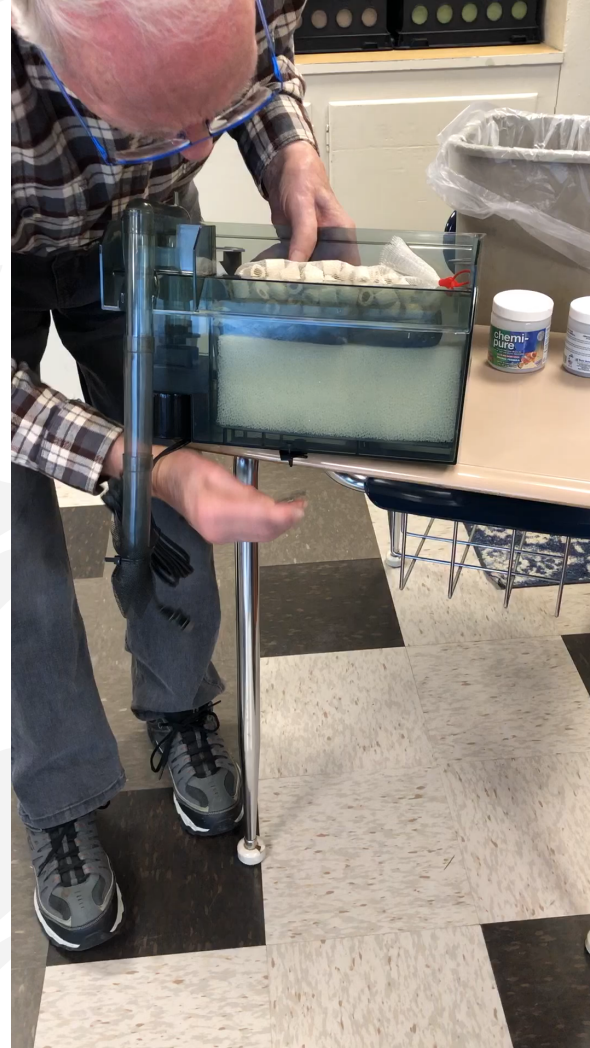

Fig.5
- Reference video on how to assemble foot to bottom of filter housing/body to ensure that it rests level when hung on the tank [Fig.5]